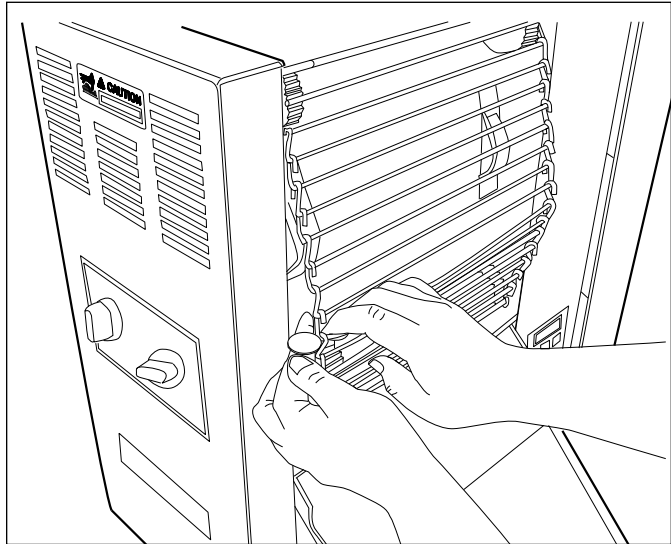

Figure 5. Measuring Conveyor Belt Chains
4. Pull the Conveyor Chain away from the edge of the toaster (Figure 5).
5. Stand a U.S. Dime on end between the frame and the chain (Figure 5).